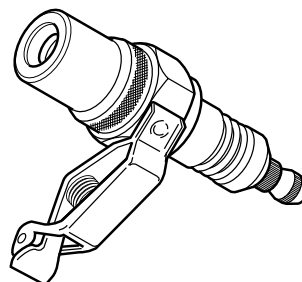

Figure 4-29. Spark Tester
- See Figure 4-29. A SPARK TESTER (Part No. HD-26792) must be used to verify adequate secondary voltage (25,000 volts) at the spark plug.